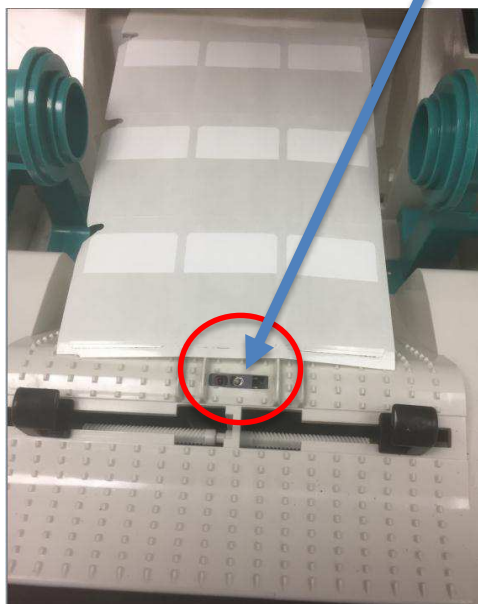

Figure 7, fixed label sensor
- ▶ Loosen the knurled knob (10, fig 7) and position label sensor by moving the knurled knob in such a way that the sensor can detect the label gap or a reflex or cut-out mark.
- ▶ Turn lever (12) clockwise to lock the printhead.